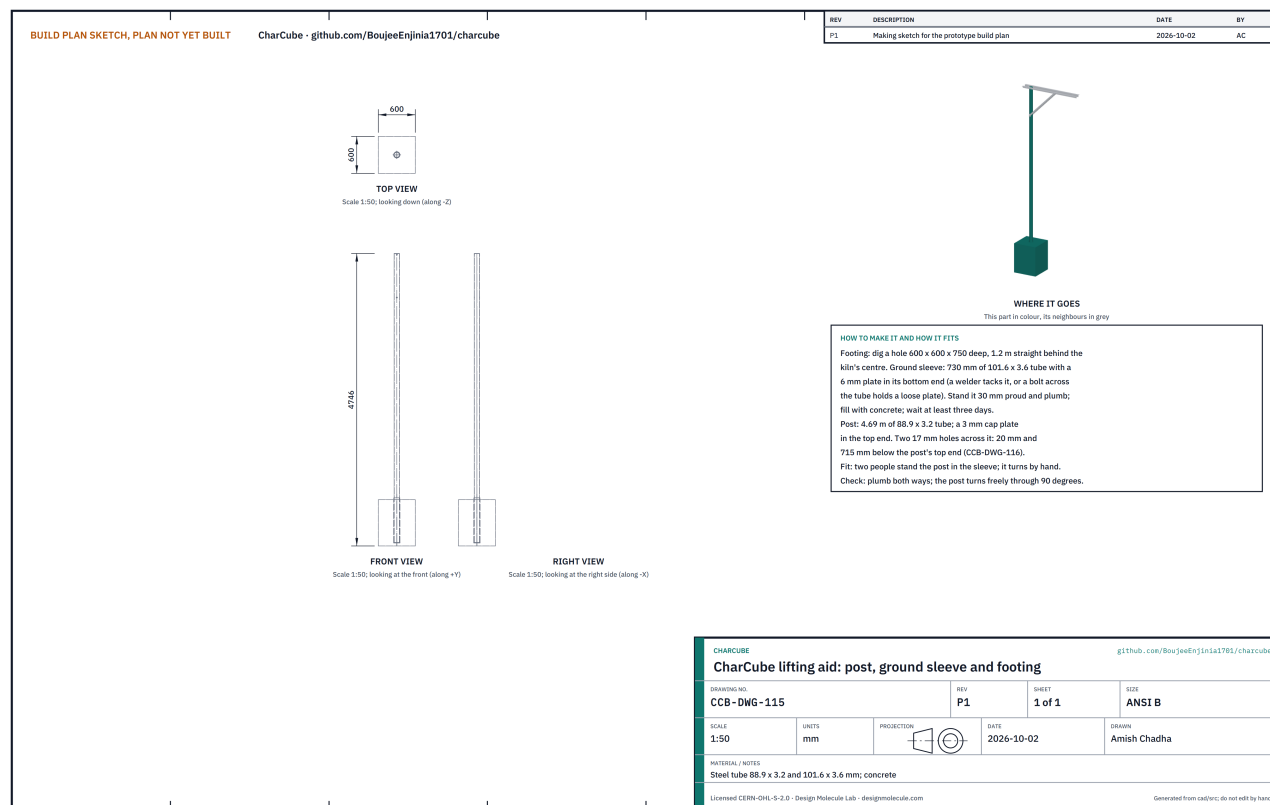

Figure 28. Lifting aid post, ground sleeve and footing making sketch (CCB-DWG-115).
2. Post: cut 4.69 m of 88.9 tube; close the top end with a 3 mm plate. Drill two 17 holes straight across it, 20 and 715 below its top end, as on Figure 28.